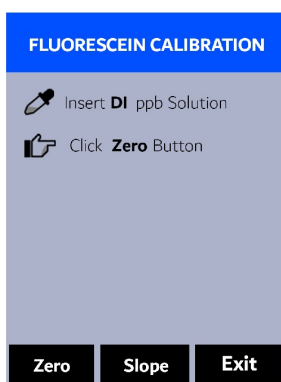

Figure 21.
1. Rinse the main module sample cell three times with deionized (DI) water. Fill the sample cell with the DI water.
4. Press  to launch the **FLUORESCENCE CALIBRATION** screen (Figure 21).